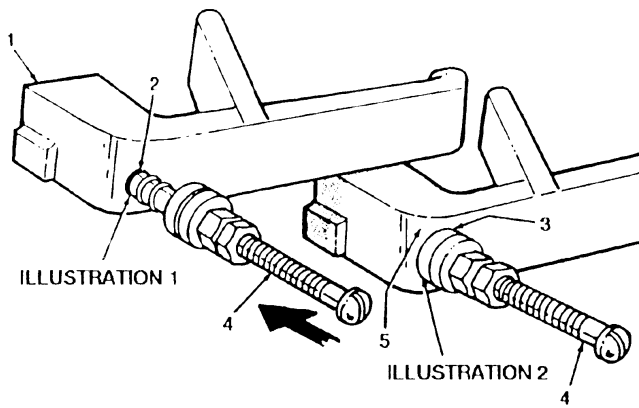

FIGURE 3-12
7. Using screw (4) as a driver, thread insert (2) into Inner handle (1) until bottom washer (3) seats against handle surface (5). (see figure 3-12)